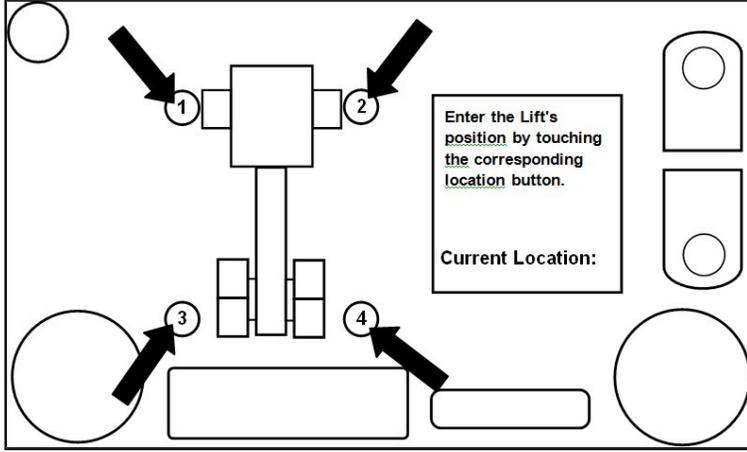

Fig. 8: Enter lift position in relation to vehicle
- The display will now appear as shown below (Fig. 8) with a picture of a vehicle asking for the current lift unit's position relative to the vehicle. Select the round button with a number inside it that matches the current lift unit's position. Once the position is selected the position button will turn green to indicate the selection.
- The display will now show the same screen as shown in Fig. 8. Select the round button that matches the position of the current lift unit relative to the vehicle. Positions that have already been selected will be shown by a yellow-colored button.